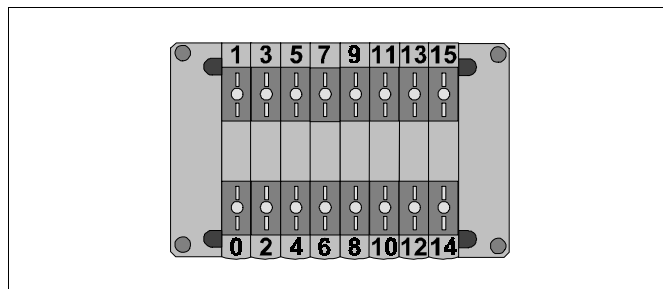

Fig. 3/7: Address assignment of the CPV valve terminal with IC connection and 8 valve locations
- Counting begins from left to right, on the individual valve plates from the front to the rear (see Fig. 3/7)